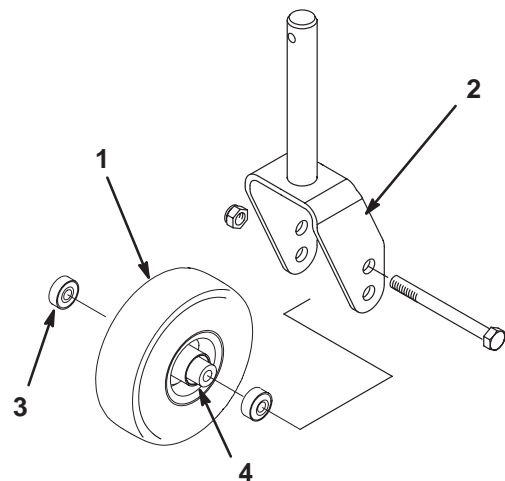
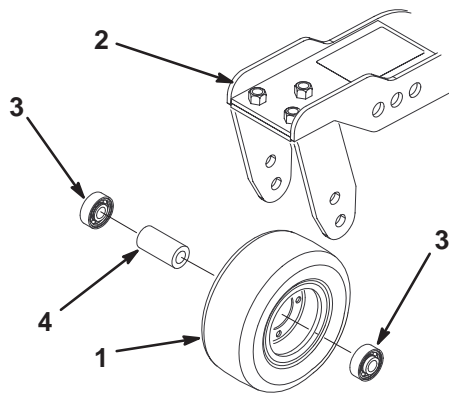

Figure 81
Figure 82
1. Remove the locknut from the capscrew holding the castor wheel assembly between the castor fork (Fig. 81) or the castor pivot arm (Fig. 82). Grasp the castor wheel and slide the capscrew out of the fork or pivot arm.
- Remove the bearing from the wheel hub and allow the bearing spacer to fall out (Fig. 81 and 82). Remove the bearing from the opposite side of the wheel hub.